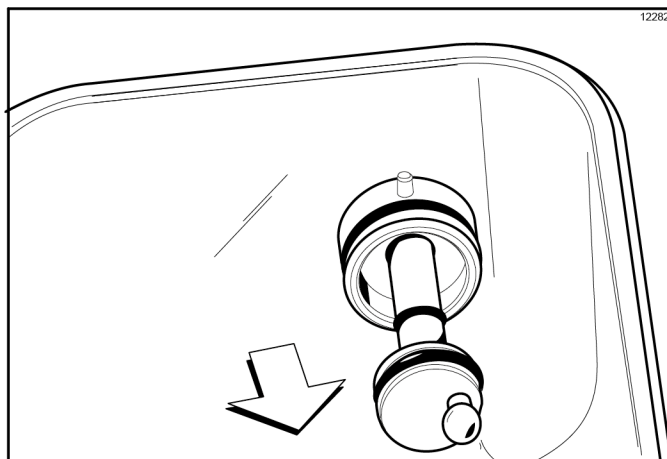

Figure 6-63
5. Remove the pump driveshaft from the drive hub in the rear wall of the mix hopper. (See Figure 6-63.)